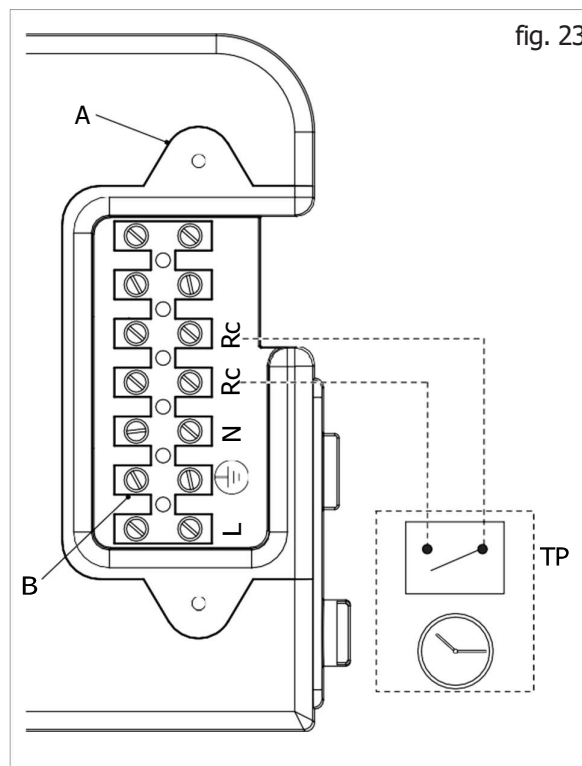

fig. 23
- > unscrew the screws and remove plate "A" (see fig. 23).
- > After removing the plate, connect the electrical cables to terminal "B" (see fig. 23);